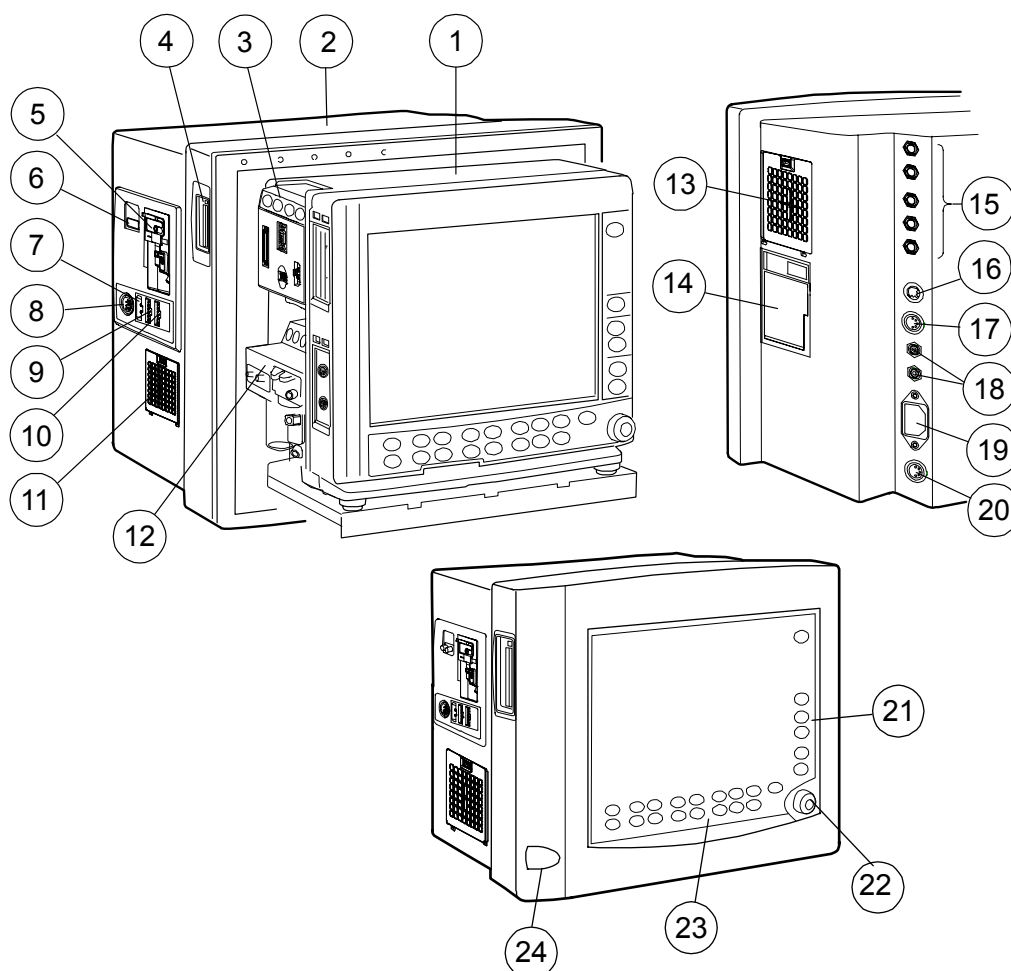

Figure 11 MRI Monitor parts and connections
1. Make sure that the power to the monitor is turned off. Connect the fiber optic network cables to the MRI Monitor connectors (see Figure 11).